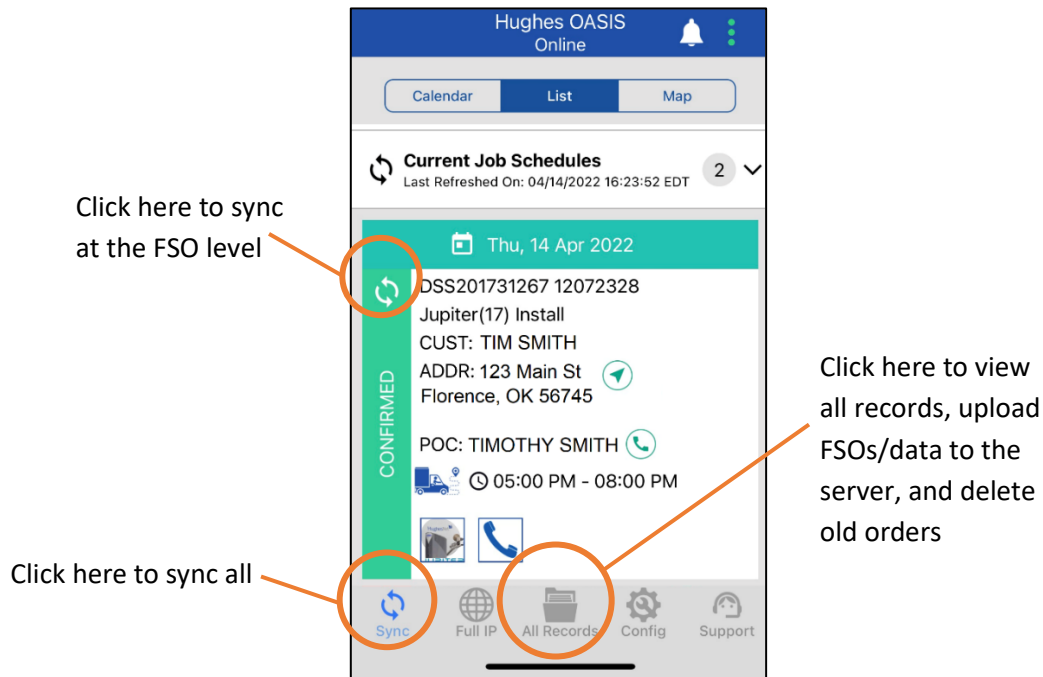

Figure 109: Syncing on OASIS
- If any information is missing on the FSO steps/screen, go back to the home screen and sync on the FSO level (see Figure 109).